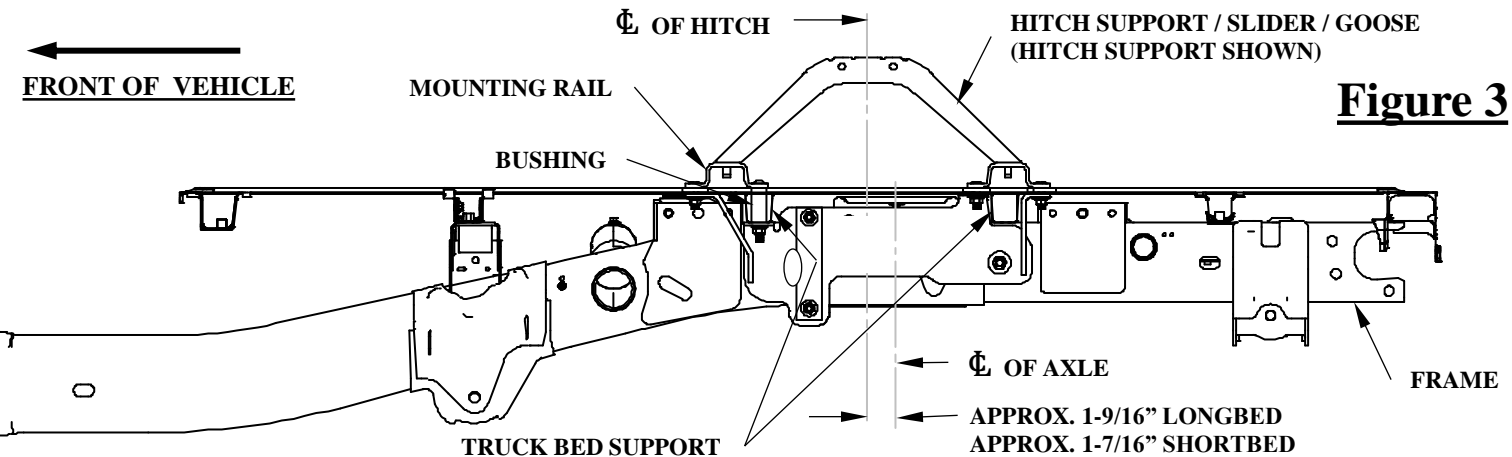

Figure 3
4. Place the rear mounting rail in the box of the truck, using your tape measure, center the rail between the weld seams on the width of the truck box floor and the proper distance from the rear edge of the truck box as shown in Figure 3.
5. Mark and center punch the holes as shown in Figure 3. Move the rail out of the way and drill each position with a 1/8" drill bit.
10. Move the mounting rail into position. Install the 1/2"-13 x 2 1/2" carriage bolts with the U-shaped spacer to be located in the corrugation between the box and the mounting rail or between the box and the side bracket (2) (3). **(Note the U-shaped spacer is to eliminate crushing bed corrugation.)** Attach with spacers and nuts as per the illustrations and tighten snug to keep the mounting rail from moving.
13. Enlarge row 2 holes in bed only to 1 1/4". (See Figure 3)
14. Install bushing (11) in to the 1 1/4" hole. Move front mounting rail into position. Install the 1/2"-13 x 4 1/2" carriage bolts (5) through rail, bushing (11), box support and side bracket (2) (3). Attach 1/2" tooth washers and 1/2" nut per the illustrations and tighten snug to keep the mounting rail from moving.
16. Secure the wire harness with the wire tie supplied (7).